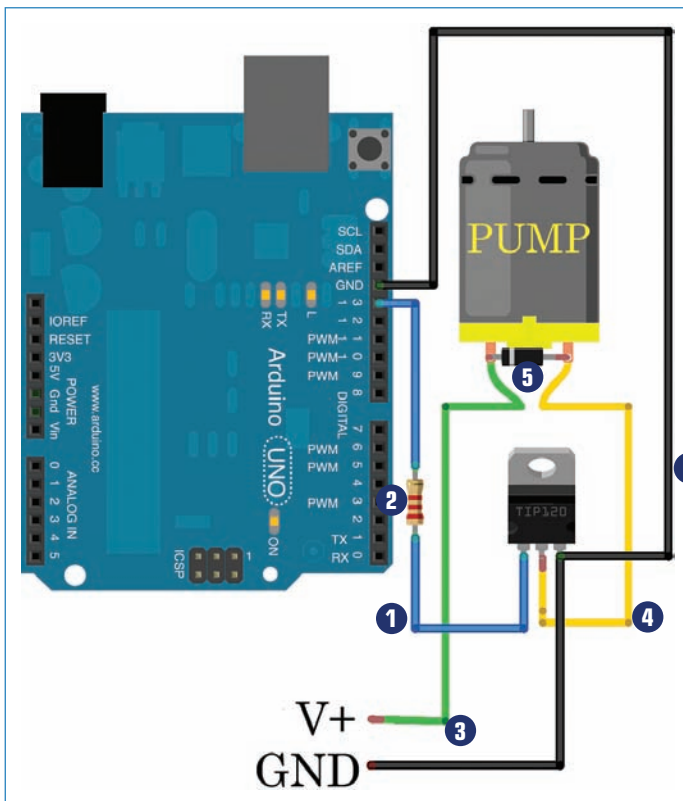

FIGURE 7.6 Wire up your pump as you see here!
3. Wire up the aquarium pump, as shown in Figure 7.6. You’re basically replacing the rocker switch with a Darlington transistor, which is kind of like an electronic switch activated by the Arduino.
- a. Connect a jumper from Pin 13 of the Arduino to the leftmost lead of the Darlington transistor, with the resistor in between. This is the blue wire in Figure 7.6.
- b. Connect the power source to the positive terminal of the pump. This is the green wire shown in Figure 7.6.
- c. Connect the middle lead of the Darlington to the negative terminal of the pump; see the yellow wire in Figure 7.6.
- d. Solder the diode between the positive and negative terminals of the pump leads; this helps prevent feedback from the motor frying your Arduino! The diode is polarized, so it must be attached correctly; Figure 7.6 shows how to do it.
- e. Connect the right-hand lead of the Darlington to both the negative terminal of the power supply and one of the Arduino's GND pins. This is the black wire in Figure 7.6.